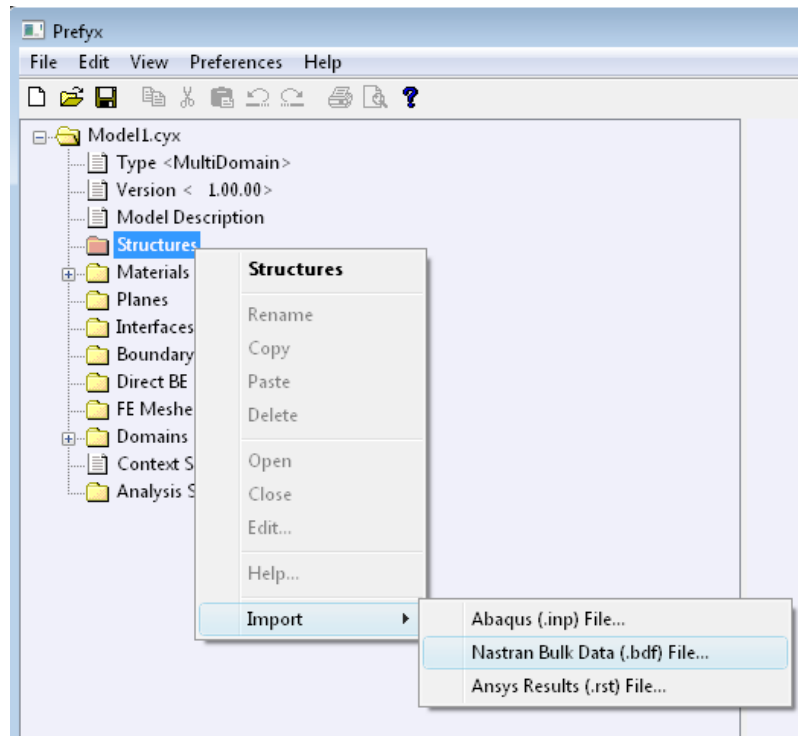

Figure 5: Import a finite element structure mesh.
- Right-click on **Structures** and select: **Import** > **Ansys Results (.rst) Files** (as shown in Figure 5) to import mesh from Nastran bulk data format. The FE meshes from Abaqus and Nastran bulk data formats can be imported by selecting **Abaqus (.inp) File** or **Nastran Bulk Data (.bdf) File...** respectively.